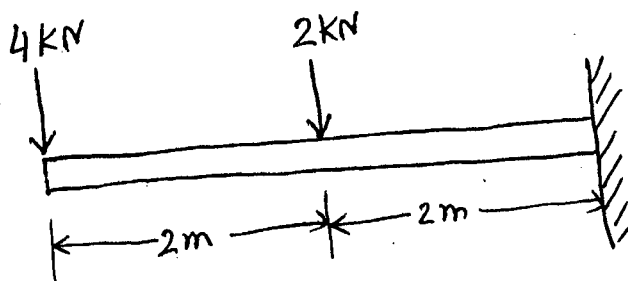
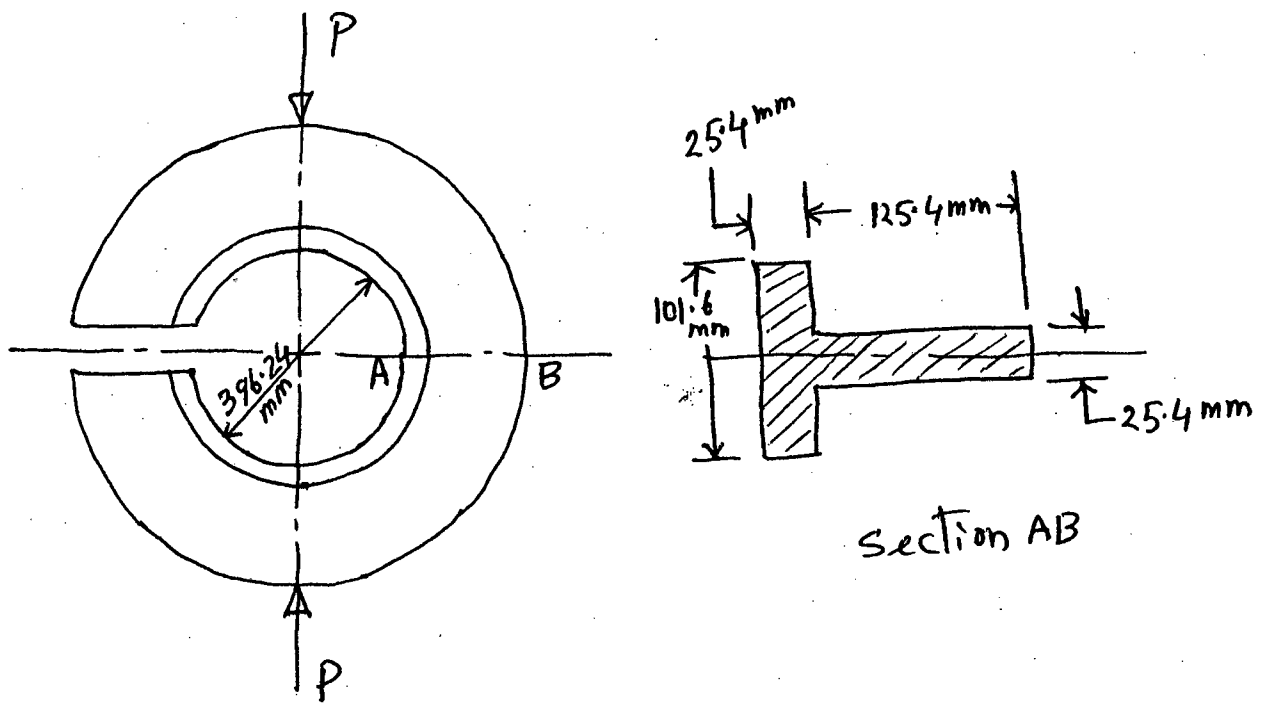
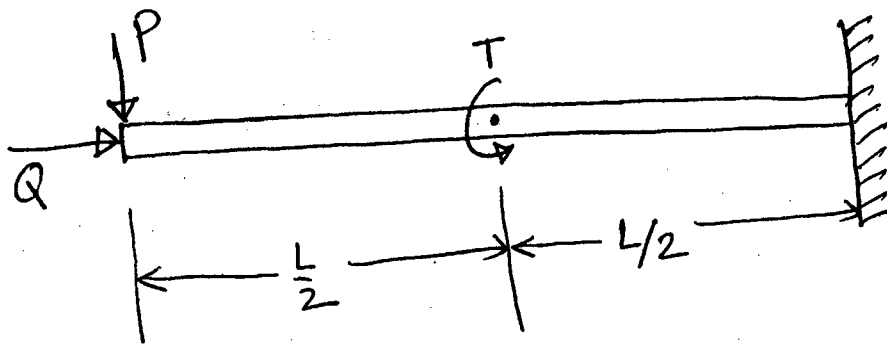

Fig. 6(b)
Fig. 7(b)
Fig. 8(c)
6. (a) Using the method of integration, determine the maximum deflection in a simply supported beam of length L carrying a uniformly distributed load of intensity w_0 applied over its entire length. What is the slope at the midpoint of the beam? (15)
- (b) The cantilever beam shown in Fig. 6(b) has a rectangular cross-section of width 50 mm and height h mm. Find the height h if the maximum deflection is not to exceed 10 mm. Assume $E = 10$ GPa. Solve the problem by area moment method. (20)
7. (a) The dimensions of a reinforced concrete beam are $b = 300$ mm, $d = 450$ mm, $A_s = 1400$ mm², and $n = 8$. If the allowable stresses are $f_c \leq 12$ MPa and $f_s \leq 140$ MPa, determine the maximum bending moment that may be applied. In what state of reinforcement is the beam? (15)
- (b) The cross-sections of a ring is the T section as shown in Fig. 7(b). The inside diameter of the ring is 396.24 mm. Determine the value of P that will cause a maximum stress of 124.15 MPa. (20)
8. (a) Briefly discuss one of the failure theories you think suitable for each of the following materials (i) ductile, (ii) brittle. (10)
- (b) What is Castigliano's theorem? (5)
- (c) A cantilever beam of uniform cross-section A and length L is subjected to the loading as shown in Fig. 8(c). The Young's modulus, shear modulus, area moment of inertia, and polar moment of inertia of the beam are E , G , I , and J , respectively. (i) What is the total strain energy stored in the beam? (ii) What is the vertical deflection at the tip of the beam? (15+5)